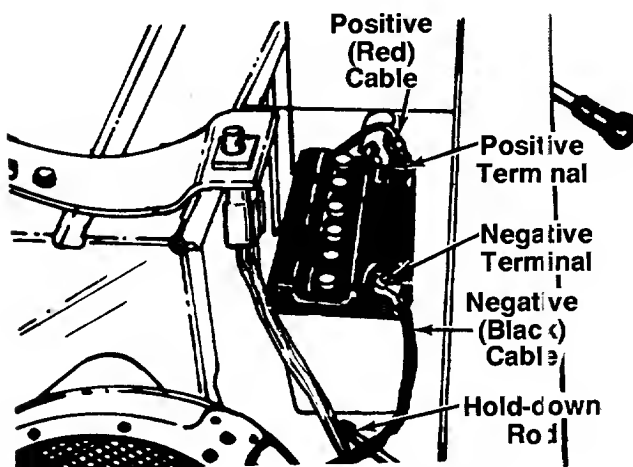

FIGURE 12.
1. Hook the battery hold-down rods into the holes in the frame. See figures 12 and 13.
2. Place the battery in the rider with the positive terminal to the front. The negative terminal goes to the rear of the unit. See figure 12.
4. Place the negative (heavy black) cable on the negative terminal. Secure with bolt, nut and lock washer provided with battery. See figure 12.